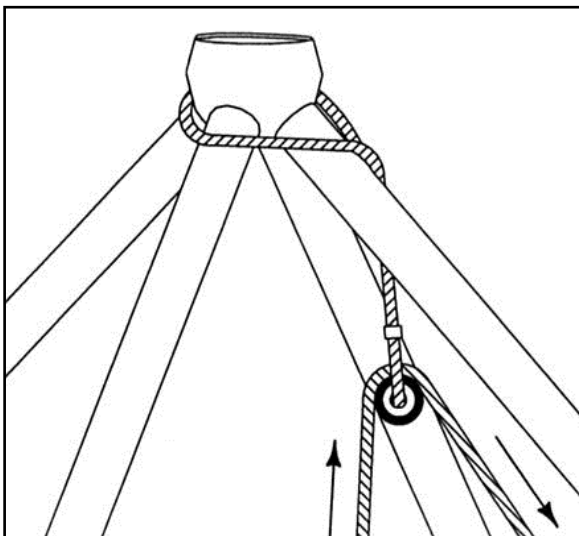
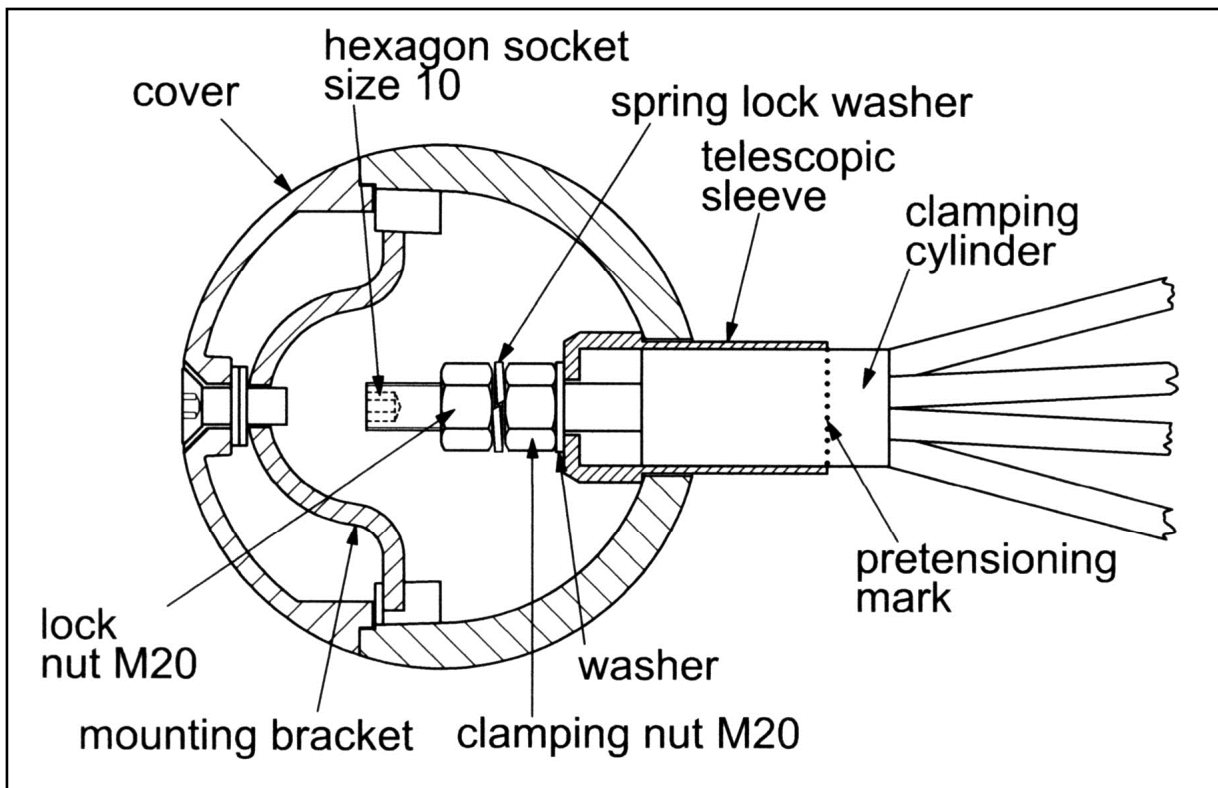

Figure 5
Figure 7
The marked vertex of the net (**K1**) is to be lifted, using the rope pulley, by means of the knotted rope as per **Figure 5** and fastened onto **connection joint K1** using the clamping nut M20, SW32. The clamping systems of the four connection joint points **K22** on **level 2** then follow. Push the clamping cylinder with the bolt M20 into the telescopic sleeve (**Figure 7**) and first of all, tighten it with the clamping nuts by only five turns to make for easier insertion into the spheres.
Now connect the tension points **K20** and **K23** at **level 1** in the same way like **K22**. Push the clamping cylinder with the bolt M20 into the telescopic sleeve (**Figure 7**) and first of all, tighten it with the clamping nuts by only five turns to make for easier insertion into the spheres.
The net **begins** to be tensioned on **joint K22** on **level 2** and then takes place, via the clamping nuts, using the SW32 special socket spanner which is supplied. It must be **tensioned up to the pretensioning mark (fig. 7)**. Tension is then created on joints **K20** and **K23** on **level 1** also to the pretensioning mark. The net finally has a good **uniform strong** tension.
After the tensioning the clamping nuts at all joints in level 1 and 2 (**K20**, **K22** and **K23**) are to lock with the supplied locking nut M20 SW32 including the spring lock washer. **When you tightened the lock nut, you can hold up the M20 bolt with an Allen key size 10 (figure 7).**
Finally, the hollow spheres, which are still open, are to be sealed using the specially prepared sealing covers via a mounting bracket (**Figure 7**). Please fix all the covers that our logo is readable. Thank you.
- The first retensioning of the equipment must be carried out after it has been used for between 1 and 2 weeks. Retensioning is done using the clamping nuts M20 which are situated in the hollow spheres of the level 1 and 2 (**K19, K20 and K23**). After removing the cover, using a size 10 Allen key, the locking nut M20 SW32 is to loosen at first. The retensioning is carried out on clamping nut SW 32 **beyond the pretensioning mark**. All connection joints of levels 1 and 2 should be retensioned in a uniform fashion. After being tensioned, lock the clamping nuts with the locking nuts which you are removed beforehand (**Figure 7**). **Please note the right position of the spring lock washer between the two nuts. When you tightened the lock nut, you can hold up the M20 bolt with an Allen key size 10 (figure 7).** Now the hollow spheres are locked with the prepared ball covers via the retaining bolt in the cover. Please fix all the covers that our logo is readable. Thank you.
Please note, that at all clamping points **the ropes are not distorted** when you tensioning the net. If necessary hold it firm with a practical tool. (**figure 7**).